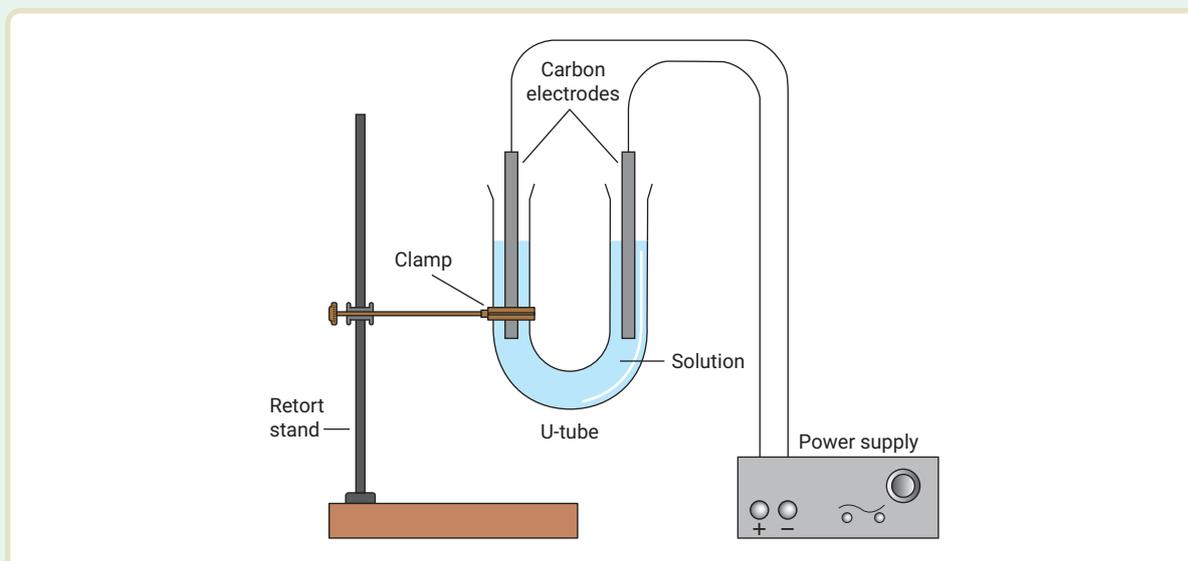

FIGURE 11.2.4 The experimental set-up
- 1 Use the clamp to secure the U-tube to a retort stand as shown Figure 11.2.4. Half-fill the U-tube with the saturated sodium chloride solution.